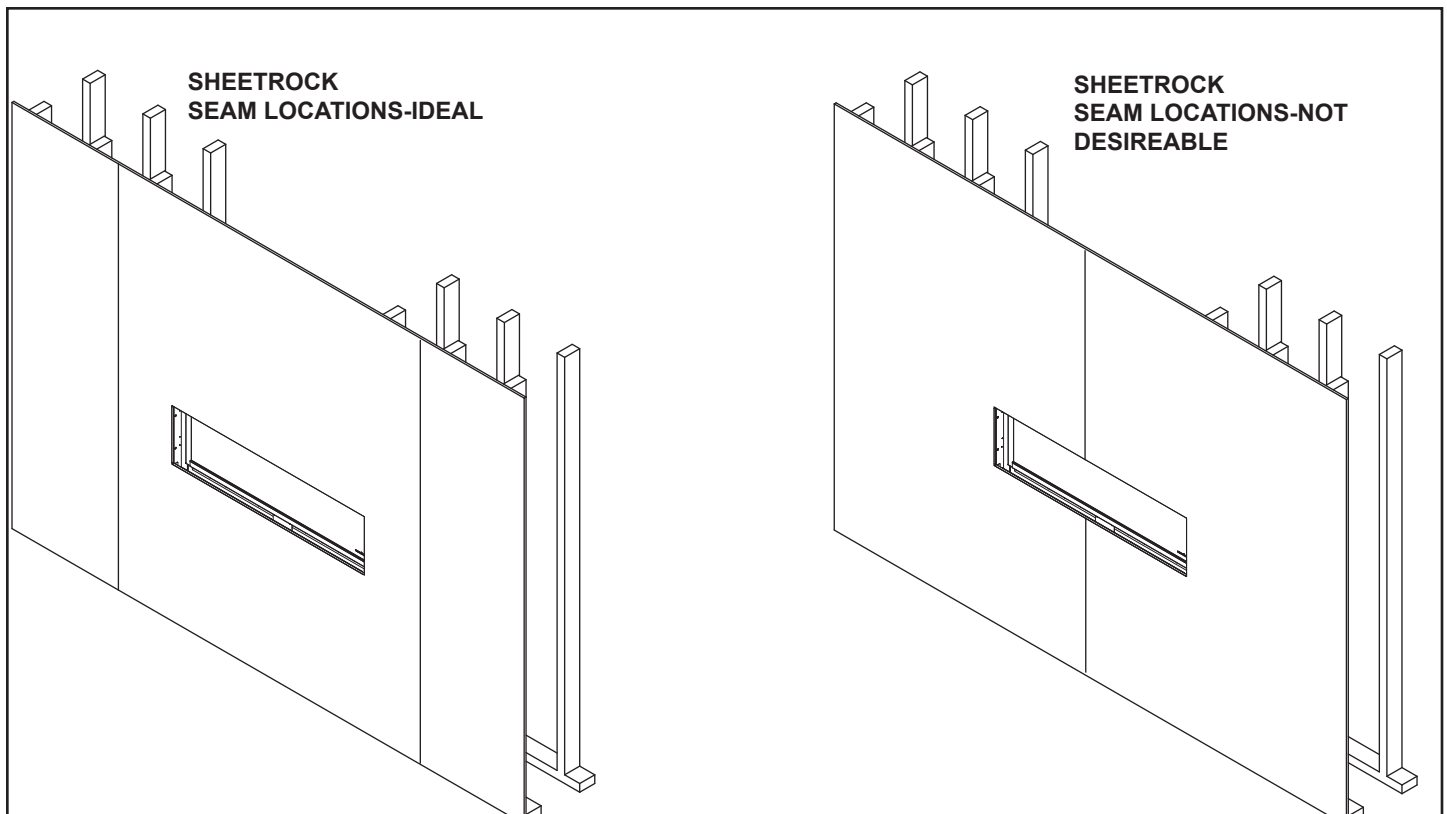

Figure 10.19. Sheetrock Seams - Prior to Granite installation
Figure 10.19 shows the PRIMO installed in a sheetrocked wall.
1. Install 1/2 inch sheetrock up to appliance top, bottom and sides of the appliance opening as shown in Figure 10.19 and 10.20.
3. A flat sheetrock surface will allow for the granite surround to sit flat. Sheetrock seams will lead to granite not being level. See Figure 10.19.